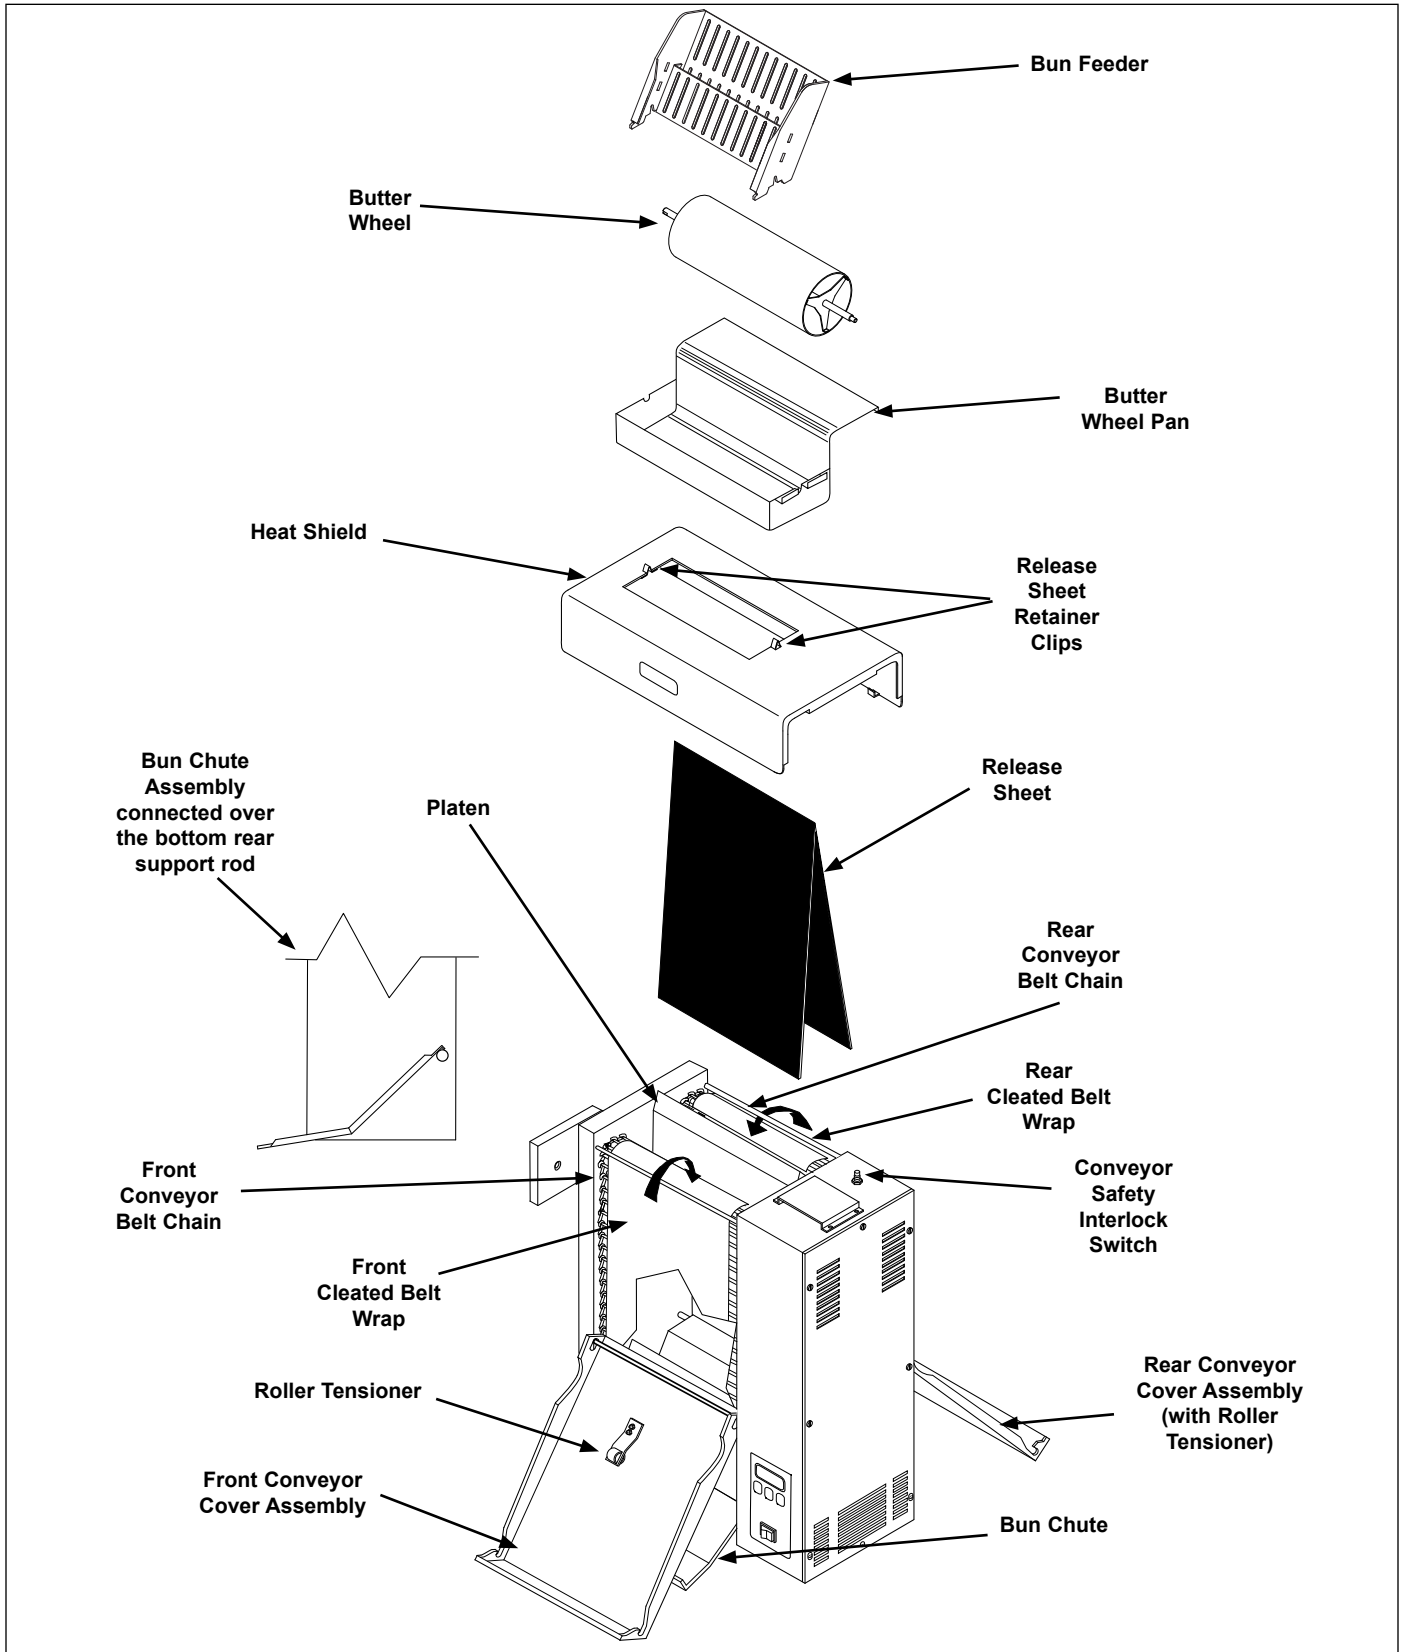

Figure 1. VCT-2000 Toaster Components
- Bun Chute (Figure 1)
- Butter Wheel and Pan (Figure 1)
- Two Release Sheets (Figure 1)
**NOTE:** Units are shipped with a Release Sheet pre-installed over the Platen (Figure 1). Verify that the Release Sheet is properly in place before proceeding.
1. Remove Bun Chute from the box and install (Figure 1).
2. Remove Butter Wheel and Pan from box. Install the Pan over the front edge of the Heat Shield and place the Butter Roller in Pan and engage in to gear case (Figure 1).
**IMPORTANT:** Make sure Heat Shield assembly is activating the Conveyor Interlock Switch (Figure 1). The conveyors will not rotate unless the Heat Shield is in place and interlock switch is activated.
Verify that the Release Sheet is installed completely over the Platen (Figure 1) before proceeding. Failure to use Release Sheet may cause permanent damage to the Platen surface. Damage caused in this manner is NOT covered by warranty.
2. Put on heat-resistant gloves and remove the Butter Wheel, Pan, and Heat Shield (Figure 1).